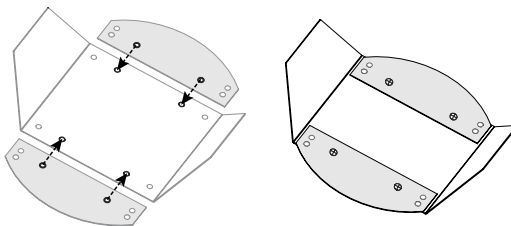

Figure 16-2
Installation of the provided vent restrictor assembly is required only for the venting configurations listed in **Figure 16-2**.
1. Refer to Figure 16-2.